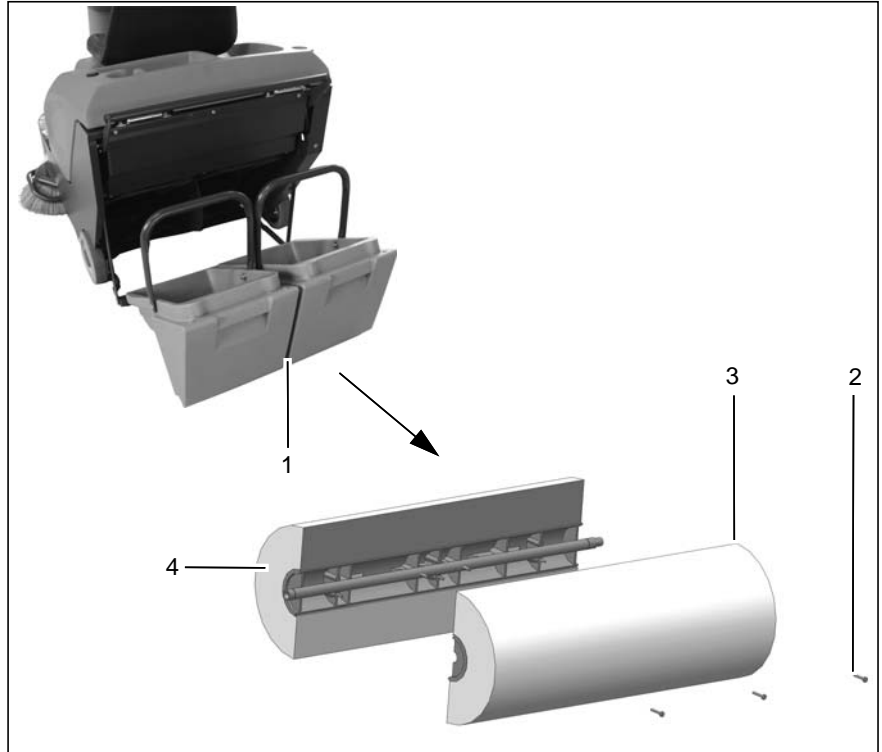

Fig. 21
Check the cylindrical broom (Fig. 21/3) weekly and change it in the case of wear.
2. Remove the dirt hoppers (Fig. 21/1).
3. Loosen the screws (Fig. 21/2) and remove the first half shell (Fig. 21/3).
4. Then turn the cylindrical broom shaft (Fig. 21/4) 180° by hand and disassemble the second half shell.